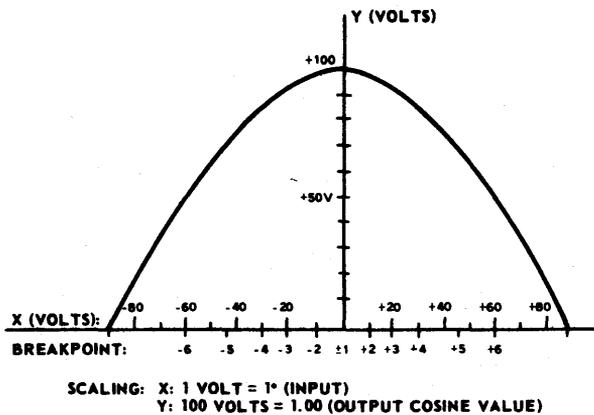

Figure 29. Typical Graph prepared for setting up the Function $Y = \text{COS}X$.
- (1) Prepare a graph of the function to be simulated as in Figure 29. Select six points of +X value and six points of -X value that best approximate the curve when connected by straight lines. Crowd the points together where the slope changes rapidly. If the values of X are all of one polarity, expanded scaling may be used. (See 3 below.)
- (2) Scale the X and Y coordinates of the selected points into appropriate voltages utilizing the full voltage range of the function generator ($X = Y = \pm 100$ volts), if possible.